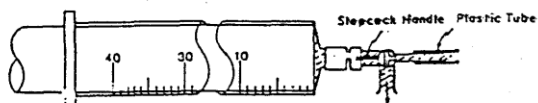

FIG. 4 Stopcock with Handle Towards Syringe
7. Close stopcock (Fig.4), (handle toward syringe). Remove tubing and inspect for bubbles. If present go to step 5.